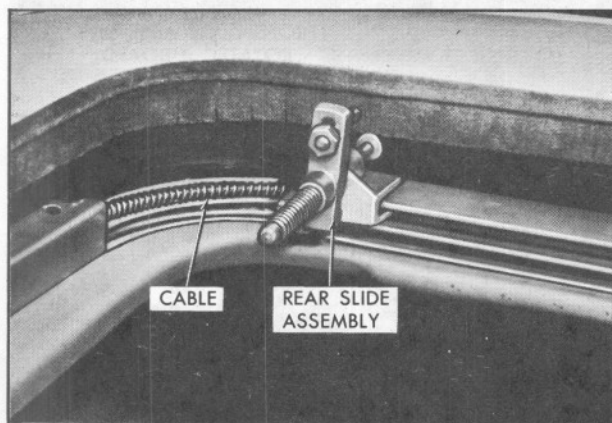

Fig. 15-35 Cable And Slide Assembly Pulled Forward
4. Pull free end of one cable out of guide rail and drive housing, and pull cable and rear slide assembly forward to front corner, Fig. 15-35.